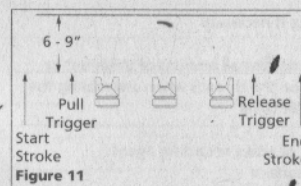

Figure 11
2. "Trigger" the gun properly. Start the gun moving at the beginning of the stroke BEFORE SQUEEZING THE TRIGGER and release the trigger BEFORE STOPPING GUN MOVEMENT at the end of the stroke. This procedure will "feather" (blend) each stroke with the next without showing overlap or unevenness (See Figure 11).